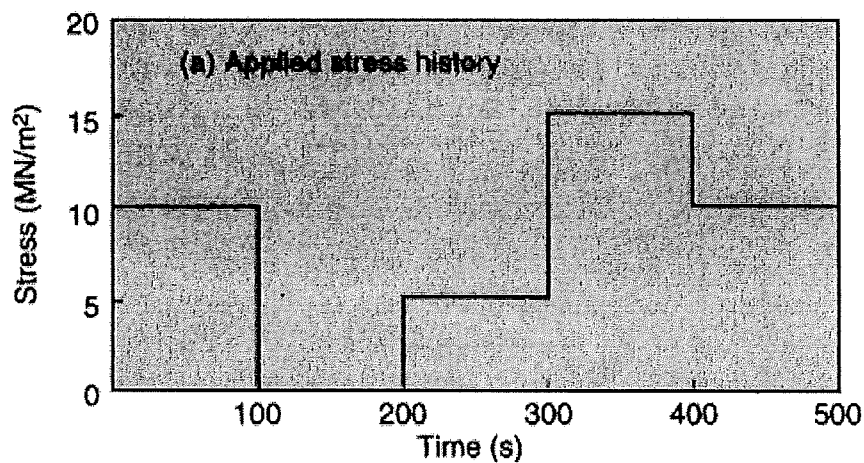

Figure 1 - Stress history for a plastic subjected to creep test
2. [a] A plastic which can have its creep behaviour described by a Maxwell model is to be subjected to the stress history shown in Figure 1. If the spring and dashpot constants for this model are 20 GNm^{-2} and 1000 GNm^{-2} , respectively then predict the strains in the material after 150, 350 and 450 seconds.